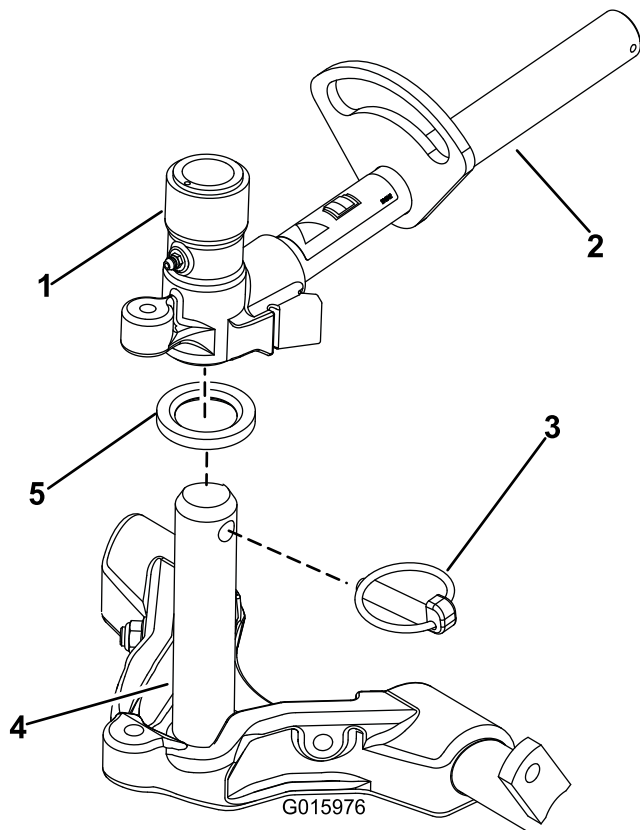

Figure 16
9. Coat the carrier-frame shaft with clean grease (Figure 16).
10. For the front cutting units, slide a cutting unit under the lift arm while inserting the shaft of the carrier frame up into the lift-arm pivot yoke (Figure 16).
11. Secure the carrier-frame shaft to the lift-arm yoke with the klik pin (Figure 16).
- B. Insert the lift-arm yoke onto the carrier frame shaft (Figure 16).